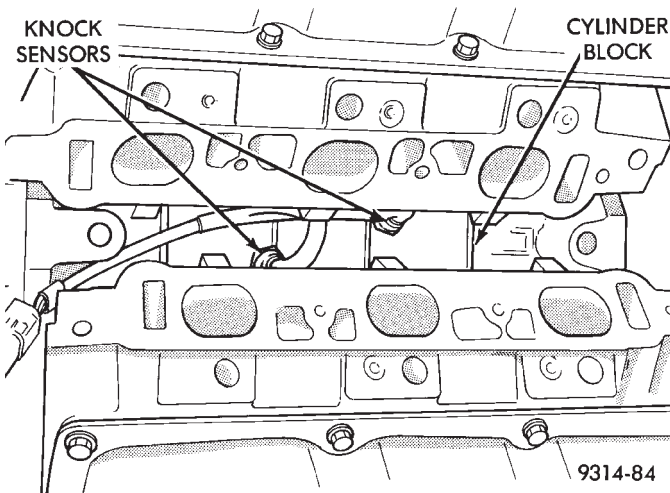

Fig. 87 Knock Sensor Location
(1) Remove intake manifold plenum refer to Group 11, Exhaust System and Intake Manifold.
(2) Disconnect electrical connector from knock sensor(s) (Fig. 87).